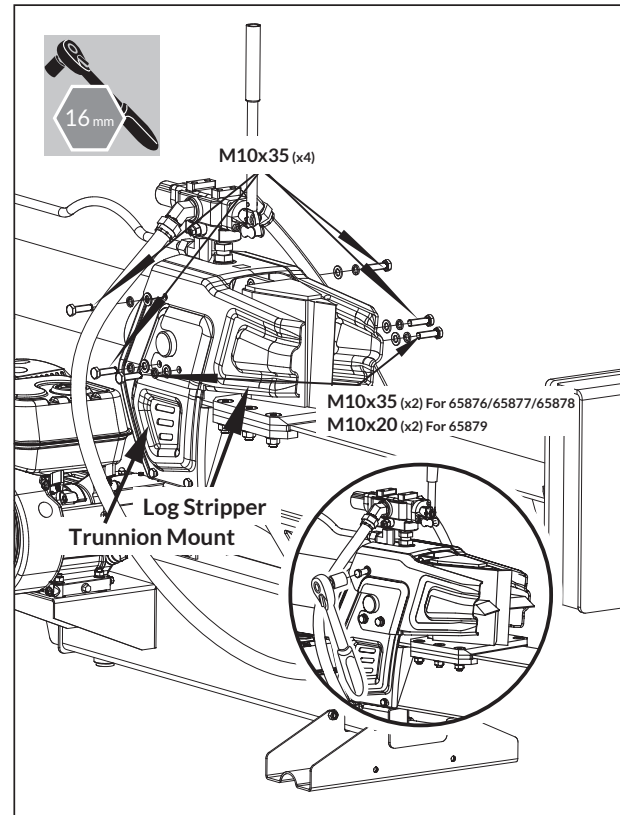

Figure 5
2. Install the log stripper by tightening the M10x35 bolts (or the M10x35 and M10x20 bolts), spring washers, and flat washers. (See Figure 5)